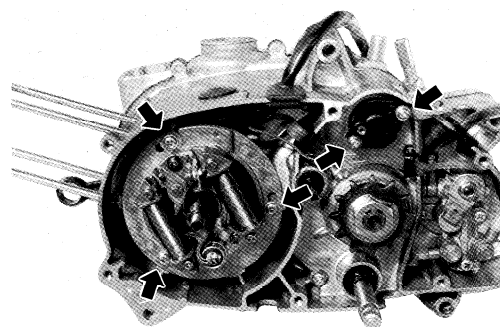

Fig. 5-4-5
6. Remove the **neutral switch body** by loosening 2 cross head screws and then remove the **neutral switch contact spring** by loosening a cross head screw. (Fig. 5-4-5)